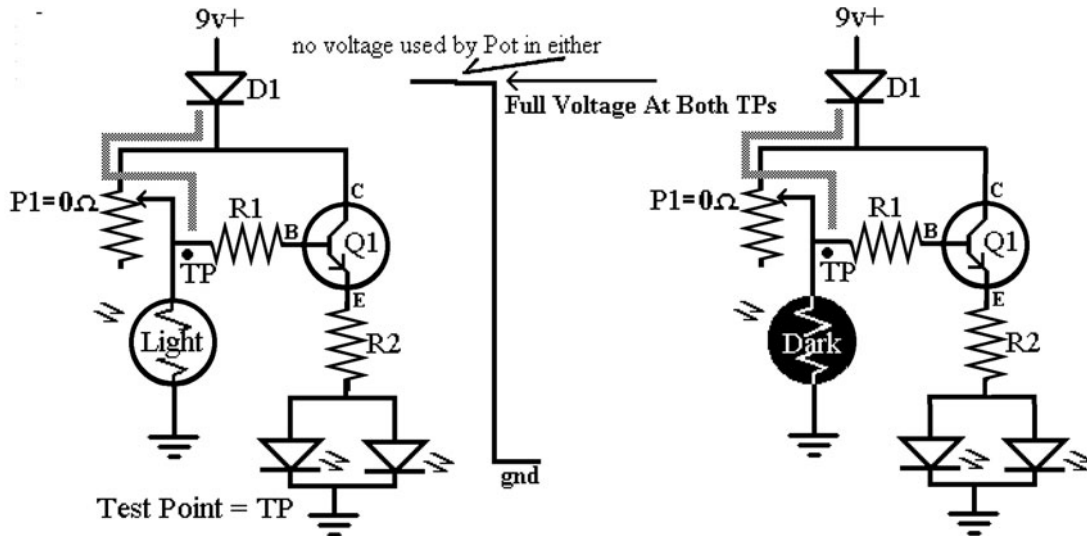

Figure L12-6
Remember the idea of the waterfall when we first looked at resistors. As the size of the load increased, the amount of voltage used increased *proportionately*. The same thing happens with two resistor loads in this circuit. More detail is given in Figure L12-6.
5. Set the pot so the resistance between legs A and C, the center leg, is close to 0 ohms. Figure L12-6 shows how the voltage available to the transistor base is identical in both the light and the dark. The potentiometer uses none of the voltage, so the base of the transistor is exposed to nearly full voltage in both circumstances.
6. Now set your circuit under a fairly good light. Measure and record the voltage at the test point shown in Figure L12-6. _____ V